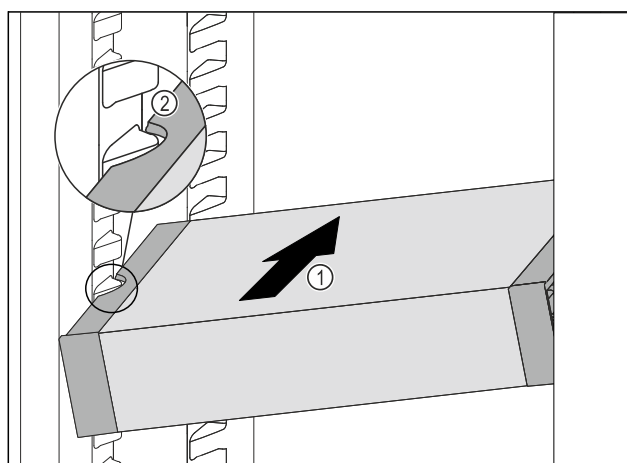

Fig. 106
- Insert the VarioSafe into the fridge section at an angle Fig. 106 (1) until the recesses in the side Fig. 106 (2) of the VarioSafe are at the level of the support rib in the fridge section.